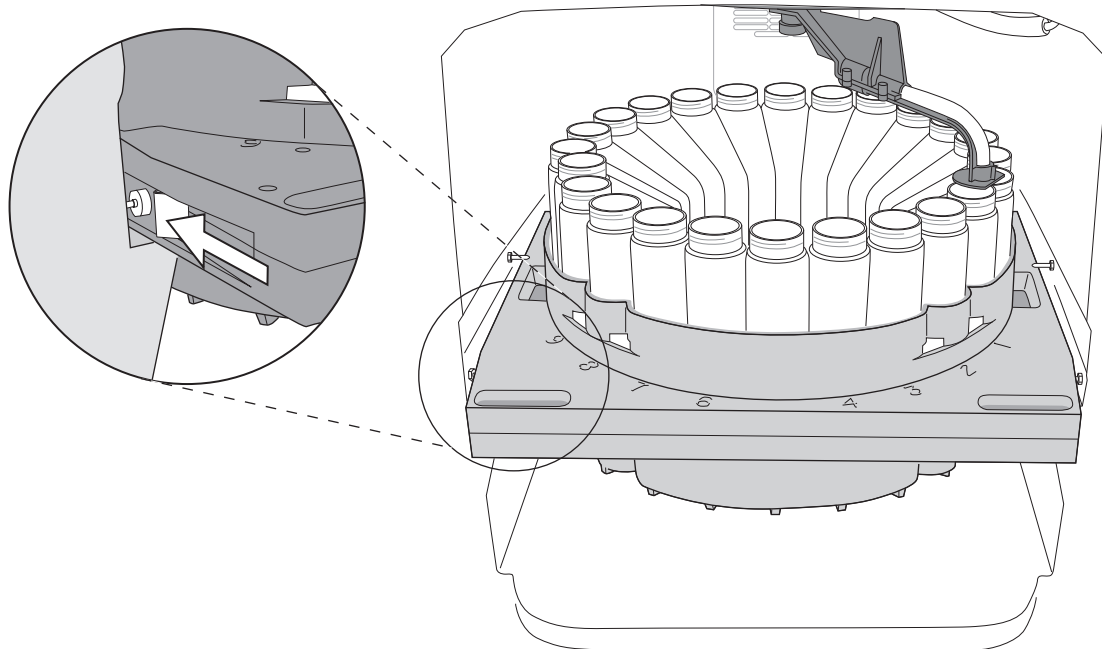

Figure 2-5 The 24-bottle rack is held in place by a latch on the left side
5. Slide the rack along the guides. Push the rack in until the left-side latch (inset, Figure 2-5) secures the rack.